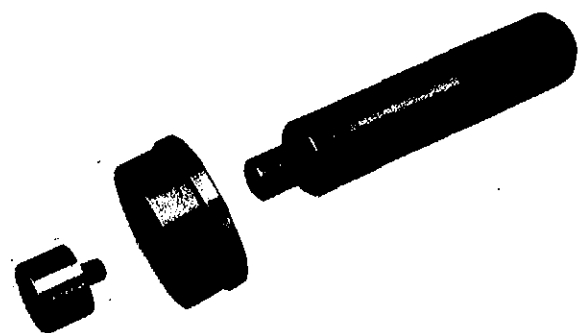
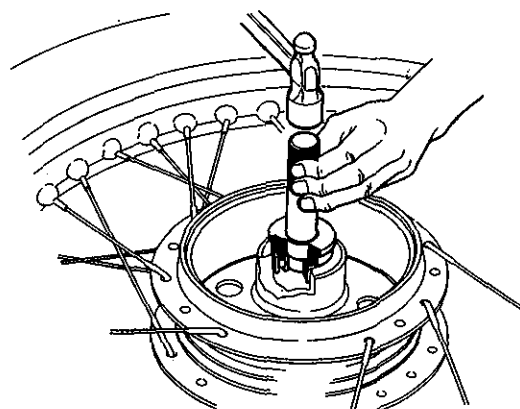

Fig.2
Fig.3
Place outer driver (Fig.1-②~⑦) matching the bearing size, pilot (Fig.1-③~⑬) and handle (Fig.2) onto the bearing to be driven in and drive in with a hammer.(Fig.3)